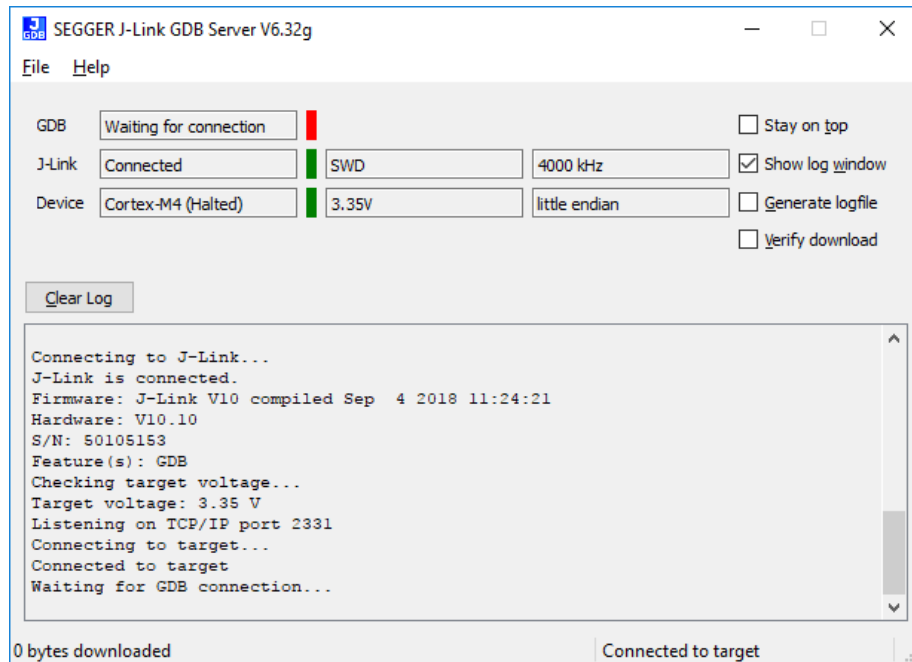

Figure 5-2. Waiting for GDB Connection
5. Once setup is done, click OK to get the window shown in Figure 5-2.